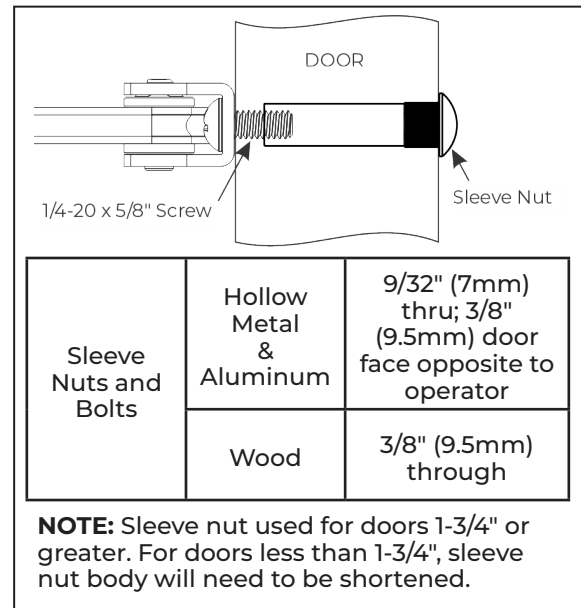

Fig. 5
- Reference Fig. 5 and use 1/4-20 x 5/8" screws with sleeve nuts.
- **For wood doors:** Reference Fig. 5 and use 1/4-20 x 5/8" screws with sleeve nuts.